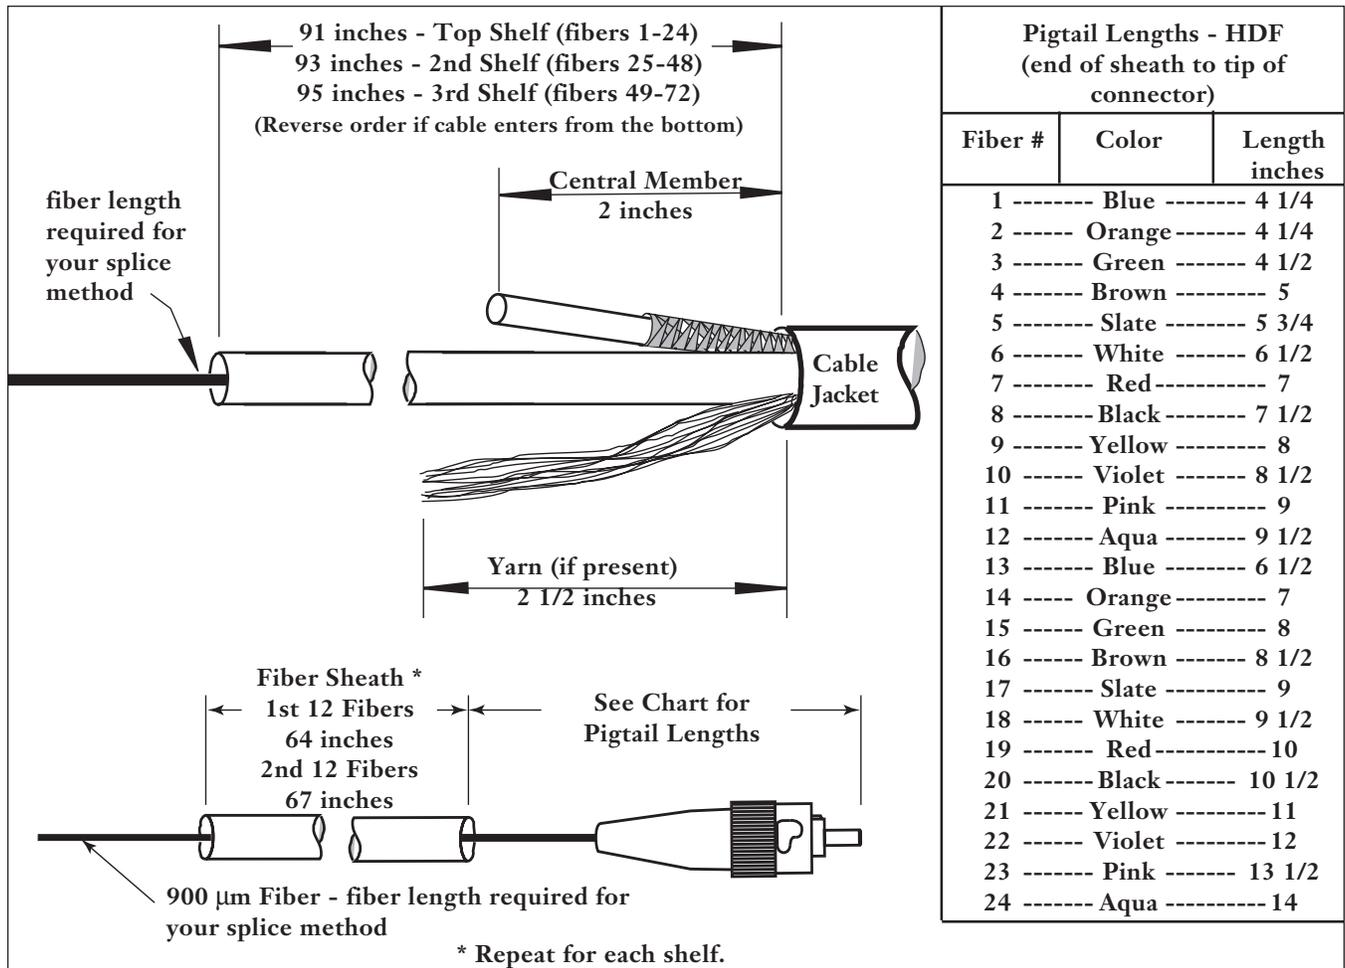
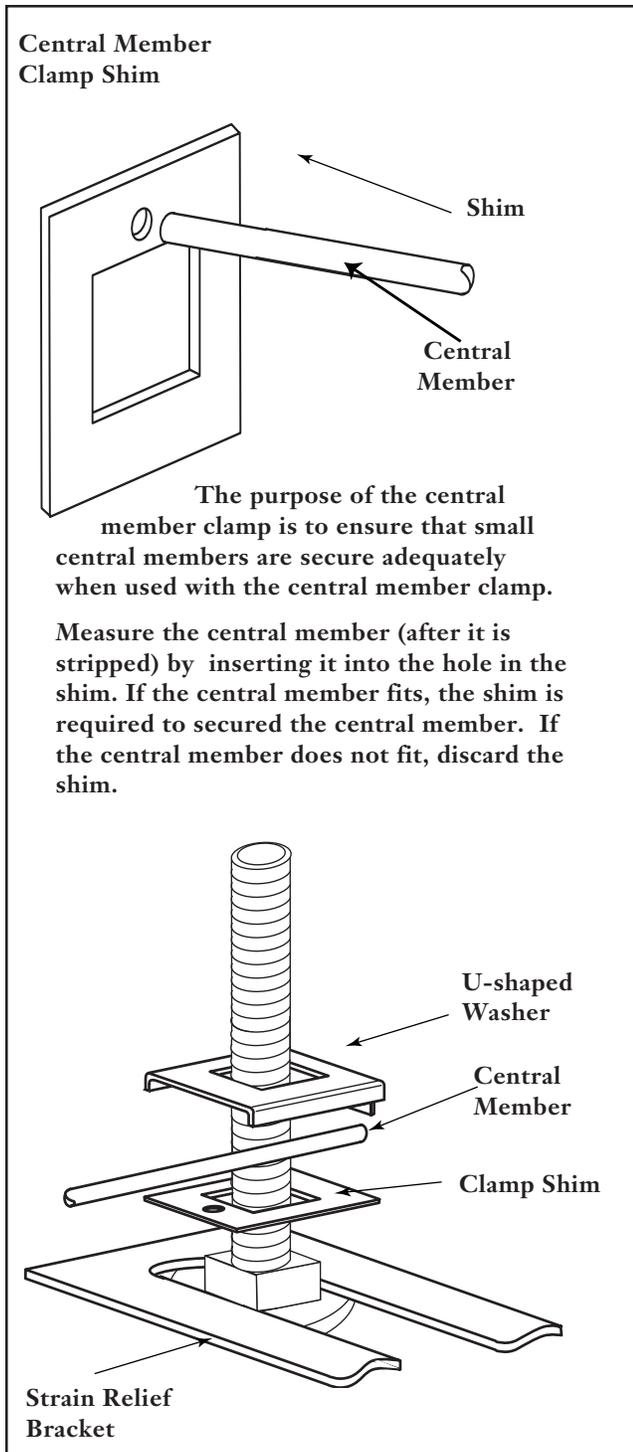

Figure 12
Figure 15
8.1 Strip cables to the lengths illustrated in Figure 12.
8.4 Strain relieve cables to strain relief brackets on the side of each shelf assembly as illustrated in Figure 12. Use a central member shim if required (Figure 15).